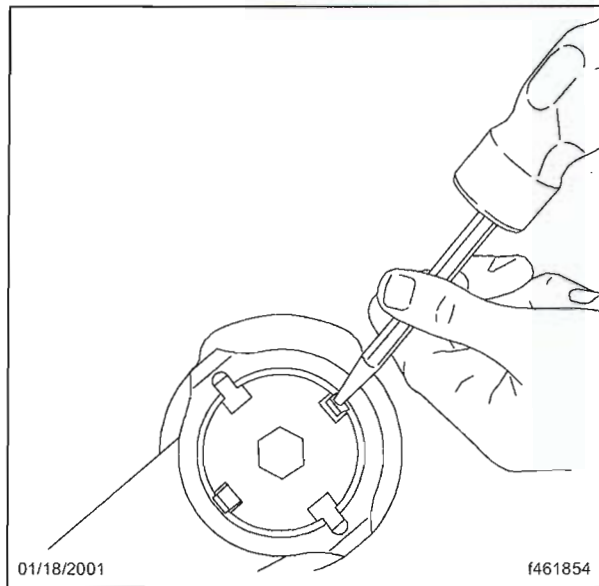

Fig. 1, Bending the Restraining Tabs
6. Using a punch and hammer, bend the two restraining tabs of the washer into the notches on the retainer. See Fig. 1. Apply torque seal, OGP F900WHITE, to the tabs.